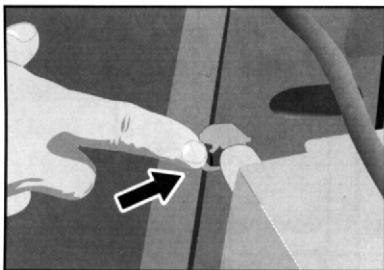

Fig.38
6. To release (disconnect) the external water tank, simply push down the (silver) "release" button located on top of the cabinet quick connect, grasp the recessed handles on each side of the tank, lift and pull the tank towards you. See fig.38, 39